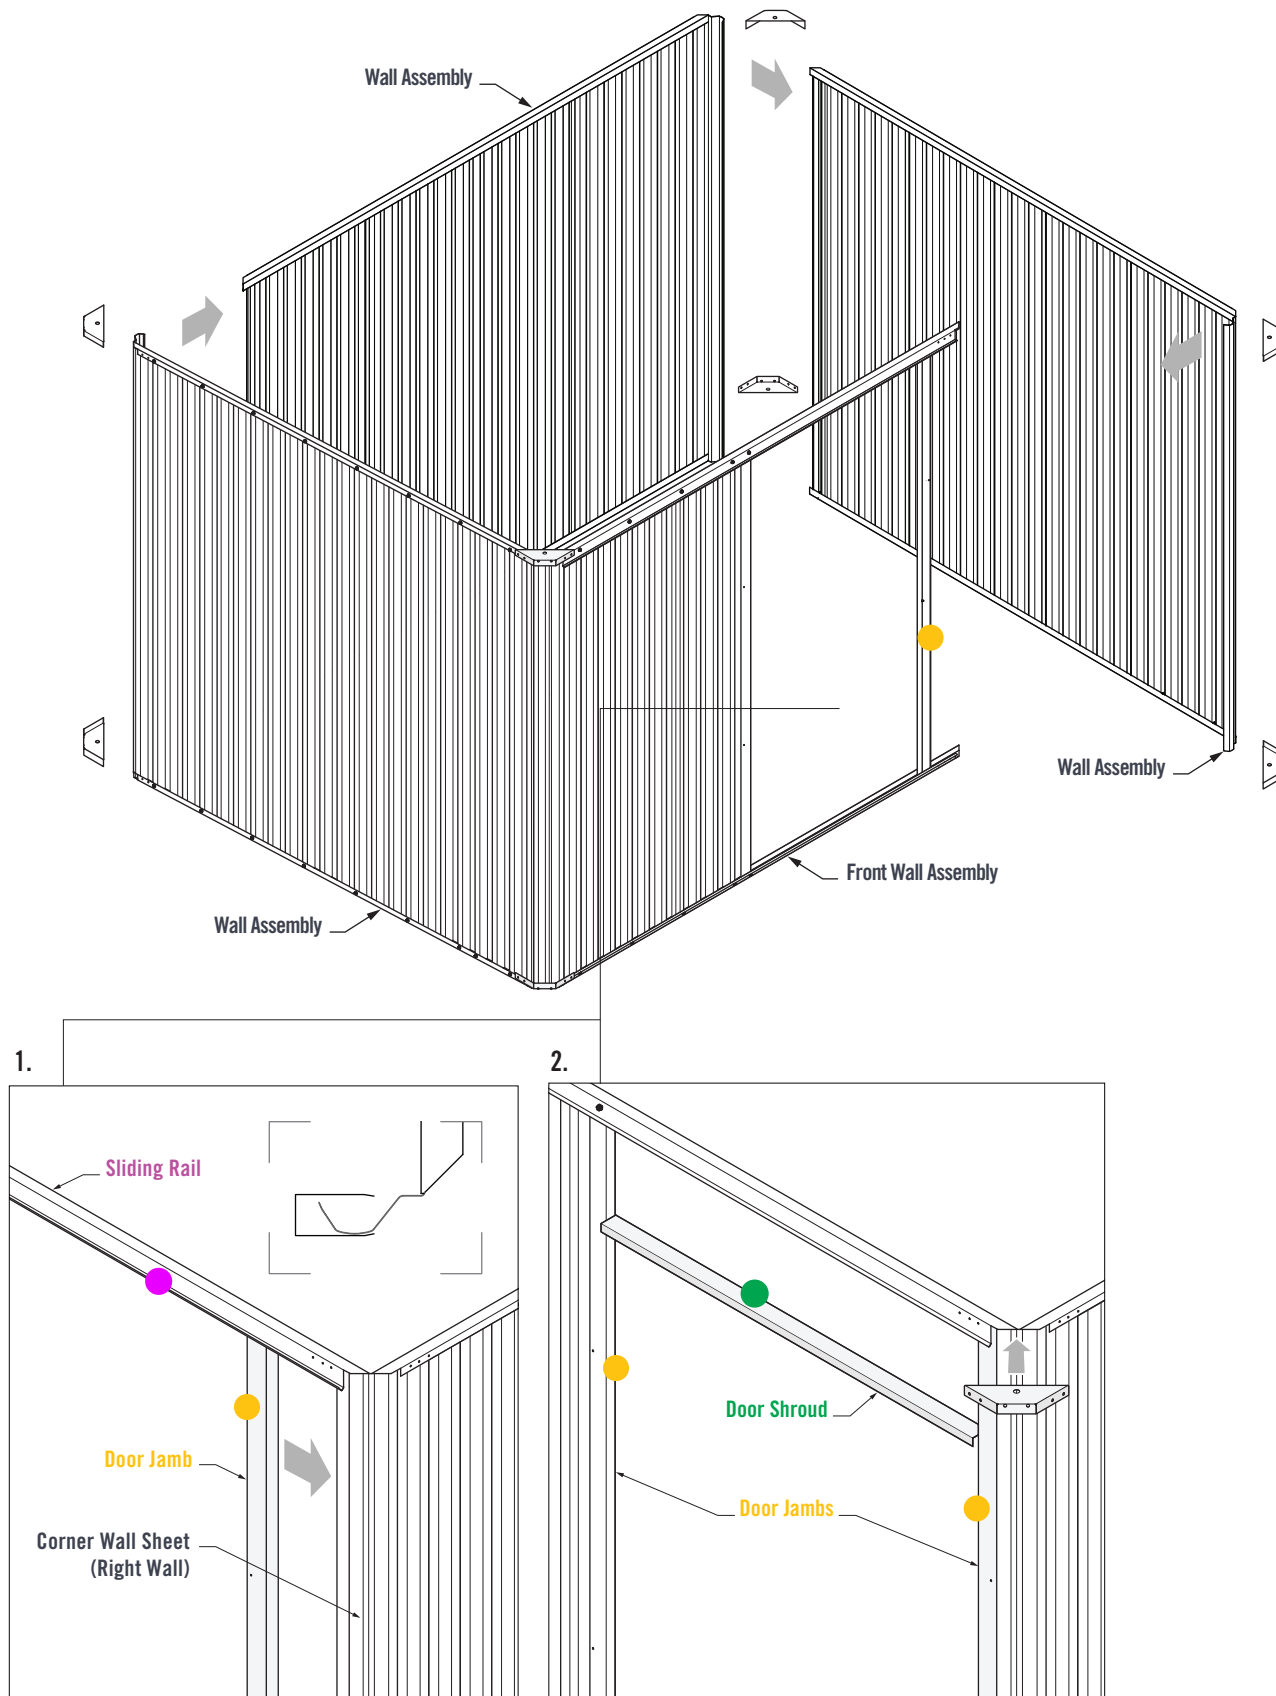

FIGURE 6.1
1. Before fixing the Right Side Wall Assembly to the Front Wall, the Door Jamb must be moved into position. Slide the Door Jamb over the corner of the Right Wall Sheet (Figure 6.1).